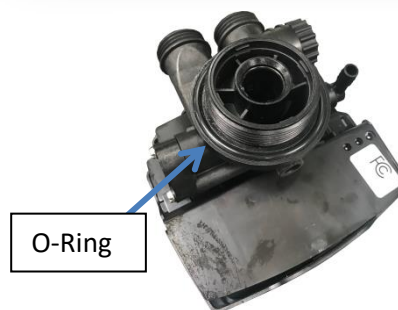

Figure 12: Valve Underside
- H. Verify that there is a large O-ring on the control valve(s) adapter base. (Figure 12)